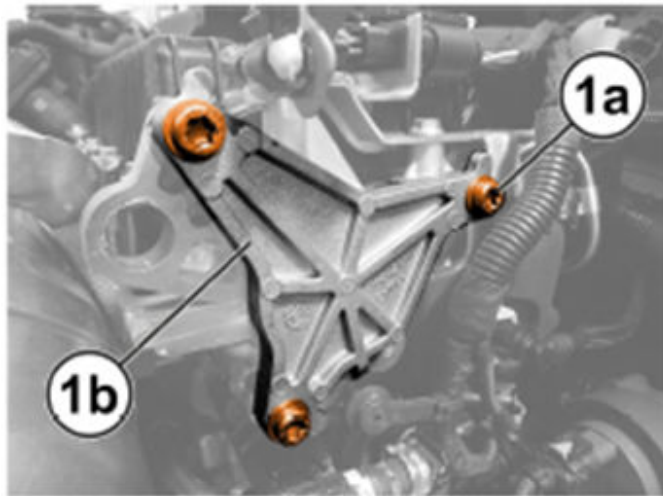

Fig. 3
11. Remove the rear shaft seal from the exhaust camshaft (1036B38) Fig. 3.